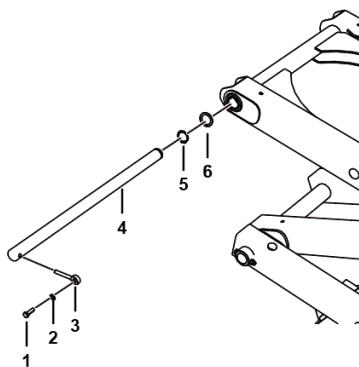

Fig. 3.5 Front connection between fork and
4. As shown in Fig. 3.5, remove the connecting pin between the main platform and the fork with a special tool.